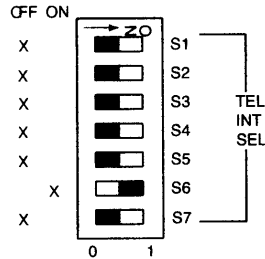

Figure 5-7: Station Telephone Selector Switch
2. Move the TEL INT SEL (dip) switches on the module to the position shown in Figure 5-7 below. Use the tip of a pen or other pointed instrument to move the switches.